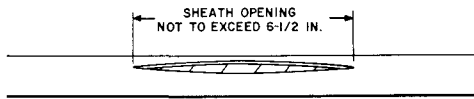

Fig. 3—Cable Sheath Opening
3.01 For repair purposes: Minor repairs which can be made in a sheath opening not exceeding 6-1/2 inches can be closed with these splice cases. Make the sheath opening as shown in Fig. 3 through 6.
- (1) To access the core, make the initial cut as shown in Fig. 3.